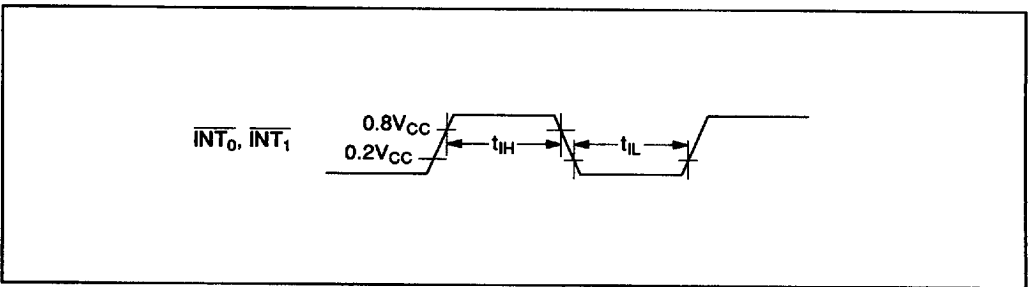

Figure 44 Interrupt Timing
4. See figure 44. The unit  $t_{cyc}$  is applied when the MCU is in standby mode or active mode.
6. See figure 44. The unit  $t_{subcyc}$  is applied when the MCU is in watch mode or subactive mode.